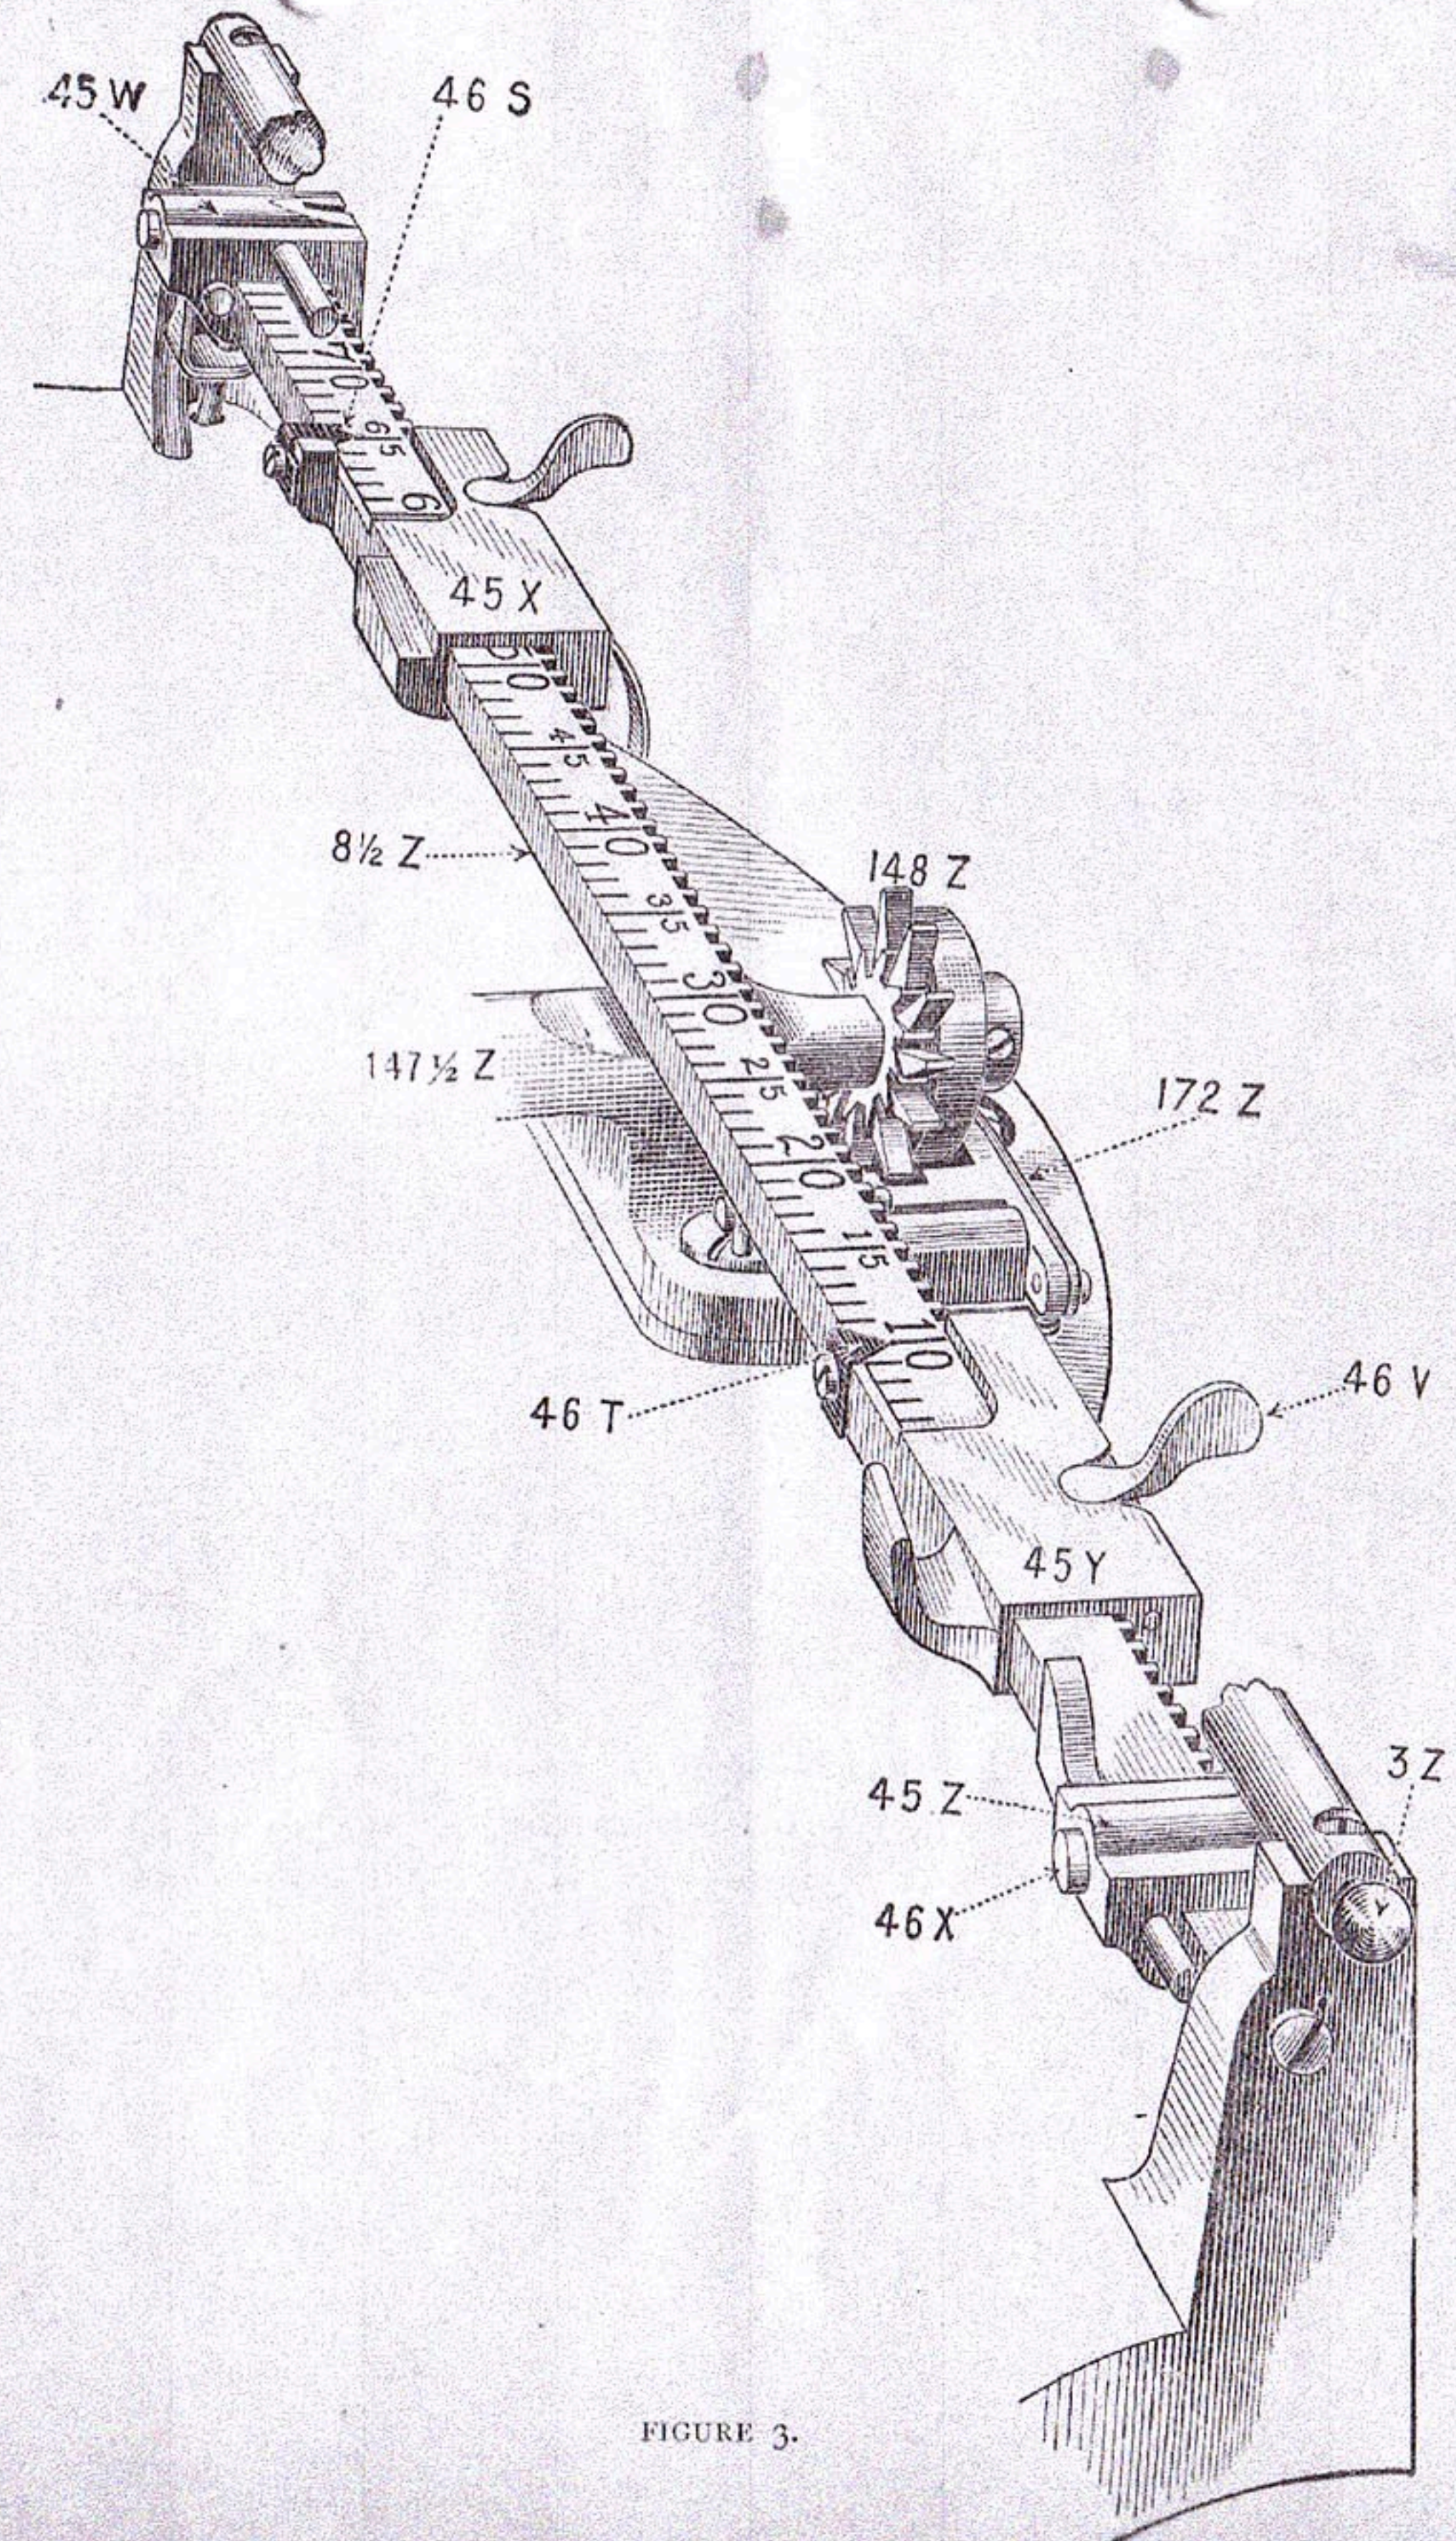
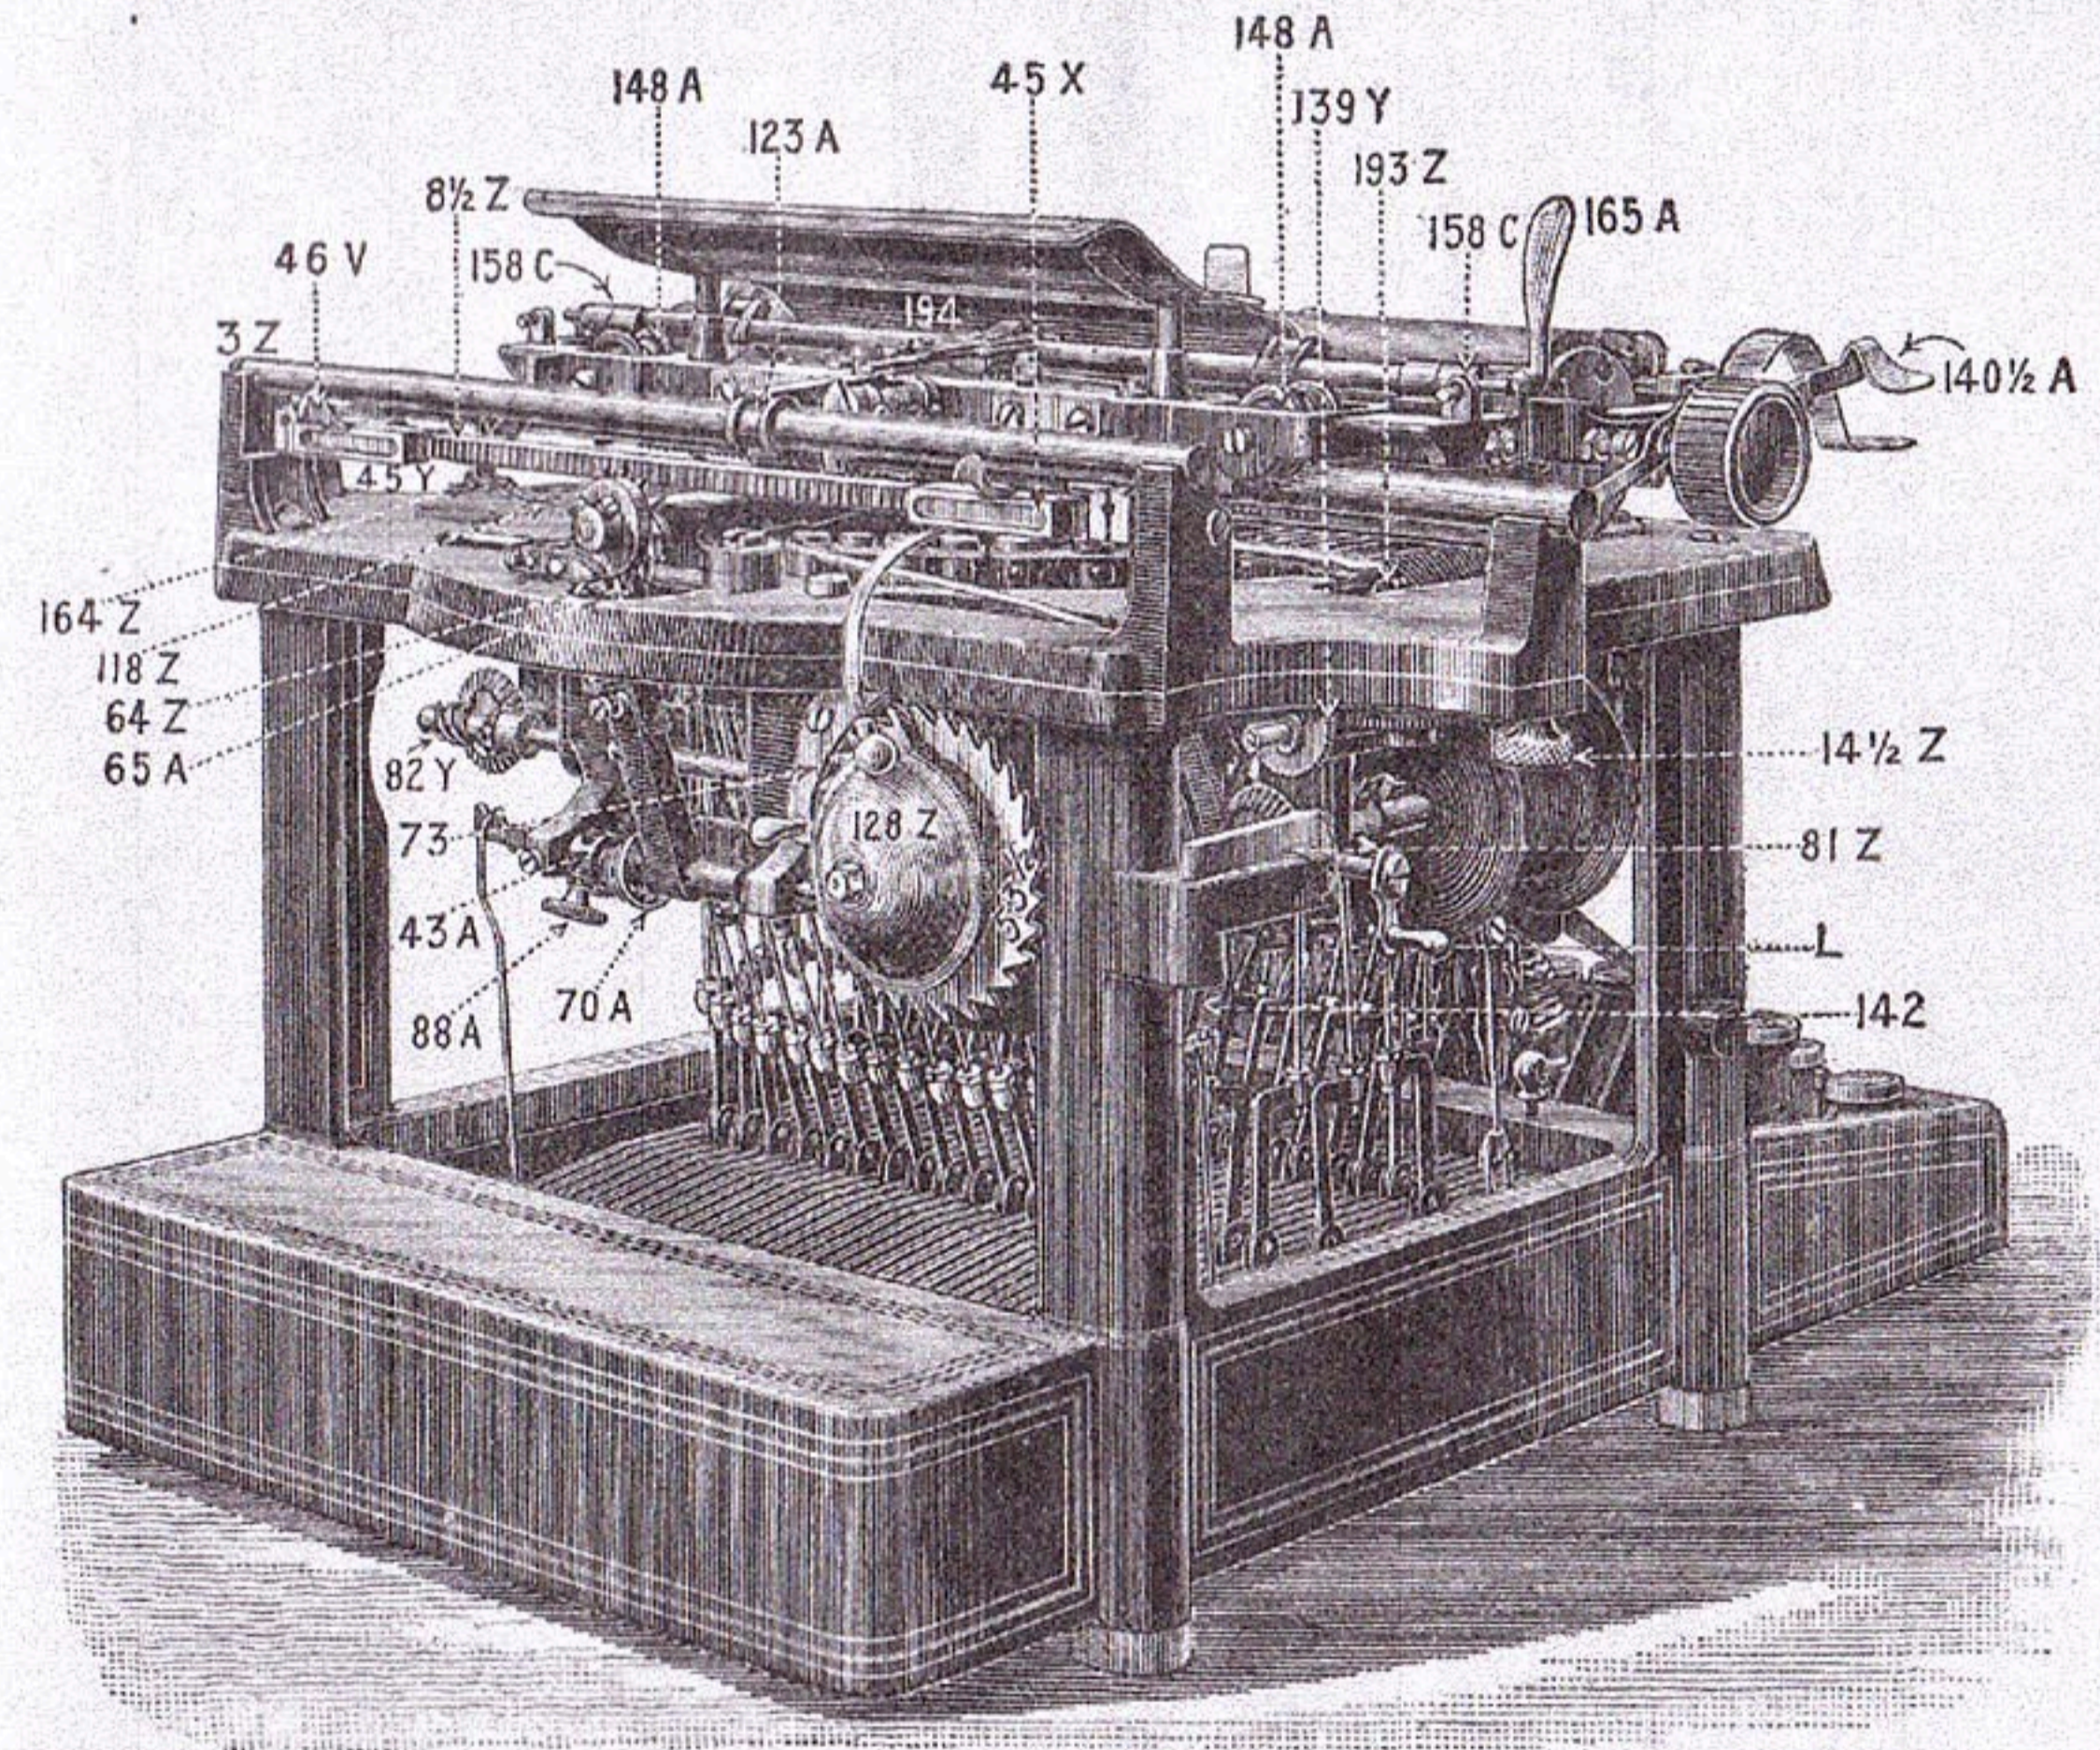

FIGURE 3.
FIGURE 5.
Figure 3. Illustrates the marginal stop mechanism, as seen from the right hand side of the machine when the paper-shelf is removed; also shows escapement wheel locking mechanism. (Page 9.)
SECTION 10. Margins are regulated by the marginal stops (45 W, 45 X, 45 Y, 45 Z, see Figure 3) which slide on the marginal stop-bar (8½ Z). The latter is graduated to correspond with the markings on the scales, and all the stops are movable, so that they can be set to begin and end the lines of writing at any point.
Place the carriage at 25 on the scale, and put the fingers of the left hand beneath the main spring wheel (142) to hold it steady, while the right hand is employed to unhook the carriage strap (118 Z) from the hook (164 Z), and hang it upon the knob on the right hand end of the carriage guide rod (3 Z, see Figure 3), to prevent the main spring getting loose and running down when the weight of the
SECTION 21. The step-by-step motion of the carriage, whereby the letter-spacing is performed, is accomplished by the action of the spacing dogs (shown at 64 Z and 65 A, Figure 5) upon the little escapement wheel (148 Z, Figure 3). These dogs are called the "rigid" dog (64 Z) and the "loose" dog (65 A). They are mounted upon the upright arm of the rocker, at the back of the machine, at such a height as will permit them to slightly engage the teeth of the escapement wheel just above them, and thus prevent it from revolving, save as motion is communicated to them by the operation of the machine. The loose dog (65 A) is so adjusted as to spring forward until it stands opposite the next notch of the escapement wheel every time that a key is depressed, and the rocker brought forward to a point where the rigid dog (64 Z) engages with the escapement wheel. As soon as the key is released, the rocker goes back to its old position, but the loose dog enters the notch of the escapement wheel which is next to the one from which it has just been released; the carriage then moves on, carrying the loose dog along with it, until the motion is checked by the loose dog coming against the upright arm of the rocker, which stops it exactly in a line with the rigid dog, and exactly the space of one letter from the point at which it started.
The pinion-wheel shaft and escapement wheel should be oiled occasionally, by putting a drop of oil in each of the two oil holes which will be found in the top of the pinion-wheel stand (147½ Z, Figure 3).